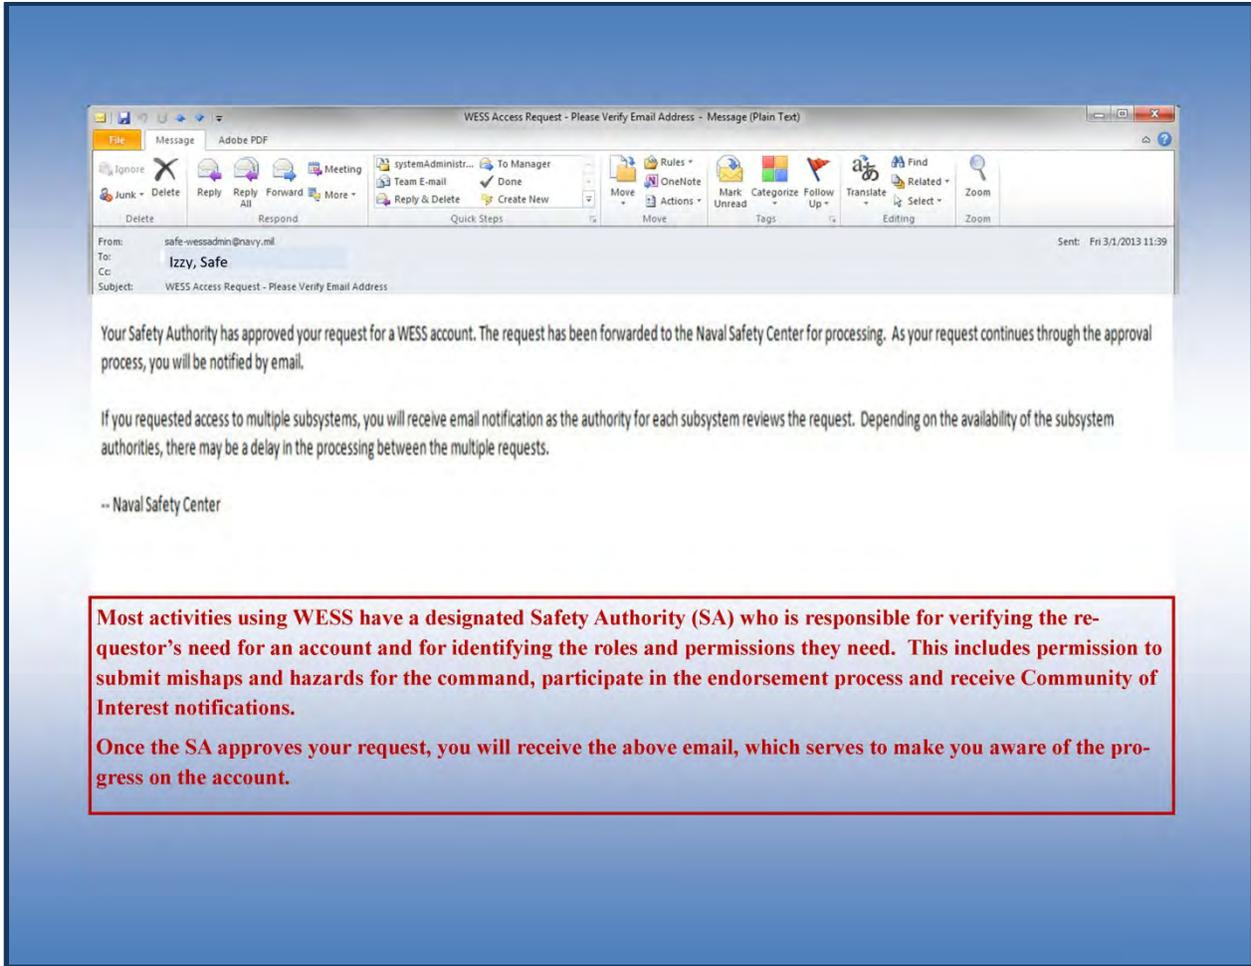

Figure 19
After the email has been verified successfully, the account will then be forwarded to the Authorities for approval. The first authorizing role is the Safety Authority (SA). Any requests for WESS accounts from a command or activity will go through the SA for endorsement and selection of the appropriate permissions. The request will then be forwarded to COMNAVSAFECEN for approval and account creation. This person receives the SA role by submitting a request via message, or by letter (on command letterhead) via email or fax to NAVSAFECEN. A sample SA letter and message can be accessed at the following links http://www.public.navy.mil/navsafecen/Documents/WESS/Sample_WESS_SA_Letter.doc. http://www.public.navy.mil/navsafecen/Documents/WESS/Sample_WESS_SA_Msg.doc. Then once the SA approves the request, the system forwards the request to the Delegated Authority (DA) at the Naval Safety Center. The DA is an internal NAVSAFECEN WESS user with special privilege to review all request for that subsystem and approve or reject before the account is sent to the WESS Administrator (WA) for creation. After approval from the DA, then the WA creates the account and the user will receive an email stating the account request has been approved for the Subsystems requested. See Figures 19, 20 and 21 as an illustration of these steps.